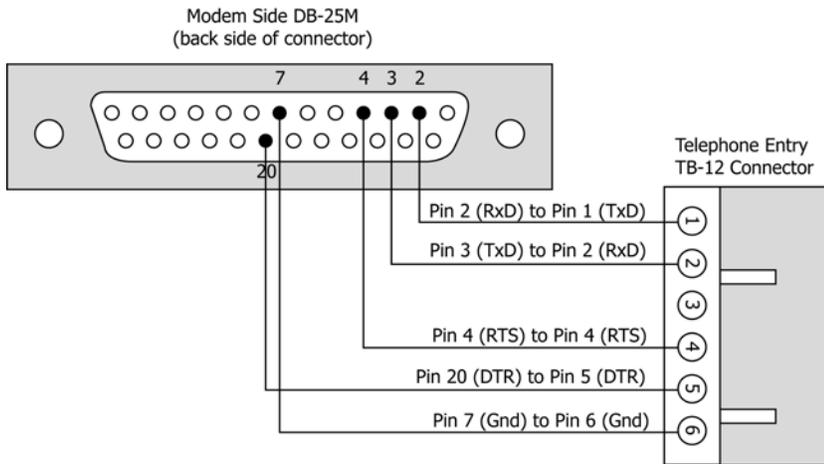

Figure 17: Modem/DB-25M to Telephone Entry/TB-12 Serial Port Connections
- If the modem has a female DB-25 connector, you must use a Keri Systems KDP-336 cable or create a cable as shown in Figure 17.